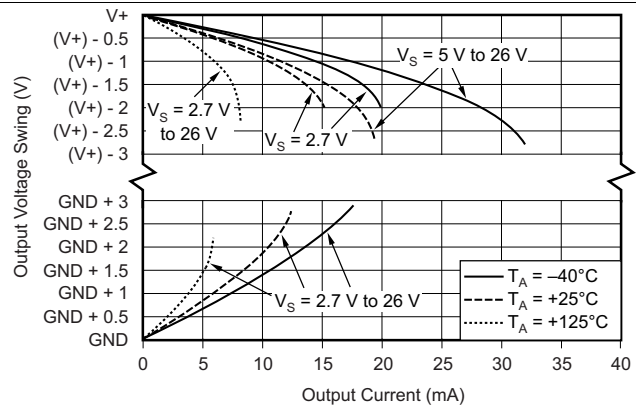

Figure 10. Output Voltage Swing vs Output Current
(1) Full range  $T_A = -40^\circ\text{C to } 125^\circ\text{C}$ .
(2) RTI = referred to input.
(3) Not production tested.
(4) See Figure 10, *Output Voltage Swing vs Output Current*, in the *Typical Characteristics* section.